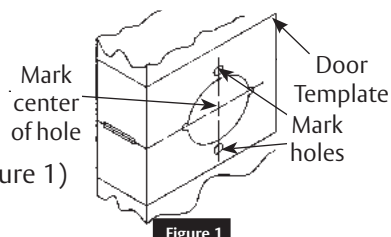

Figure 1
3. Mark centers of holes at proper backset. Mark both sides of door. (Figure 1)